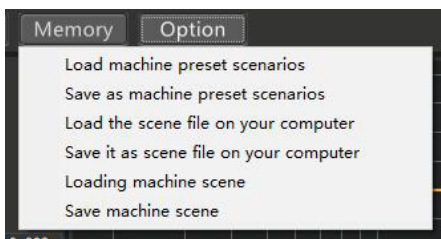

Figure 3.4.1
As shown in Figure 3.4.1 DSP 4 software of the scene in three major types of actions: the machine stored scene data, computer data stored scene and the whole scene data manipulation.
Step 1: Click on the main interface to the top menu "Memory" button will pop up all the scenes action item (see Figure 3.4.1).
Step 1: Click on the main interface to the top menu " File" button will pop up all the s cenas action item (see Figure 3.4.1).
Step 1: Click on the main interface to the top menu "File" button will pop up all the scenes action item (see Figure 3.4.1)